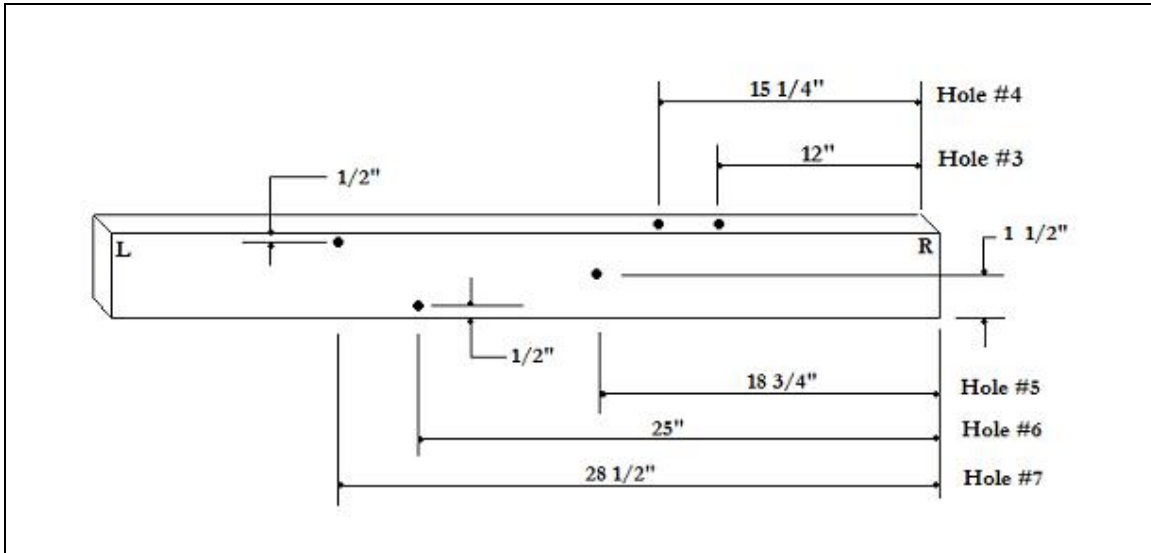

Fig. 2 - Rear Treadle Pulley Support Crossmember Holes
1.) Install the J-Bolt for the Spring Lever Cord – (See Figure 2 & 4) From the inside, rear of the loom, into Hole No. 5 of the Rear Crossmember, insert the 5/16 -18 x 3 1/8” J-Bolt, with one (1) 5/16 –18 Jamb Nut and one (1) 5/16 “ Flat Washer. Secure it, on the outside of the Crossmember, with one (1) 5/16” Washer, and one (1) 5/16 –18 Nylock. This entire sub-assembly should be installed as follows:
2.) Mount the Spring Lever Assembly – (See Figures 2 & 4) Load one (1) 3/8 – 16 x 3 1/2” Hex Bolt with one (1) 3/8 Washer, the Spring Lever (with factory inserted Bushing), and black plastic Spacer. Check to see that the hex bolt holding the Pulley, which is mounted on the side of the Lever, is pointing in the same direction as the hex
3.) Mount the Spring Assembly – (See Figure 2 & 4) From the inside, rear of the loom, into Hole No. 7 of the Rear Crossmember, insert the 5/16 - 18 x 3 1/8” J-Bolt, with one (1) 5/16 – 18 Jamb Nut and one (1) 5/16 “ Washer. Secure it, on the outside of the